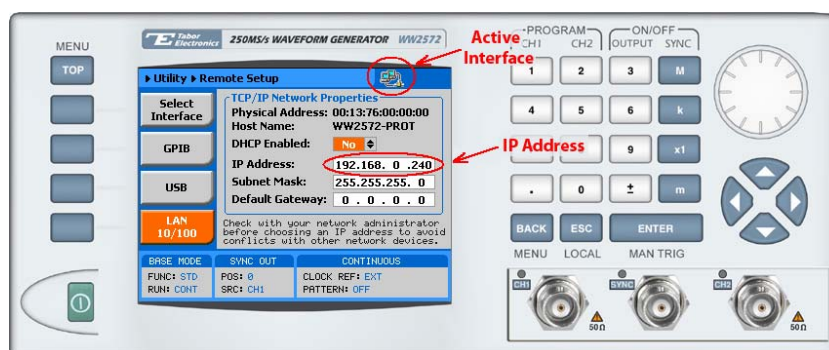

Figure 3 - Viewing the remote setup in ww2571/2A
- To verify the IP address that was assigned to the instrument press the **TOP** button, then press the **Utility** button and scroll down to the **Remote Setup** command. Press **Enter** as shown in Figure 3.